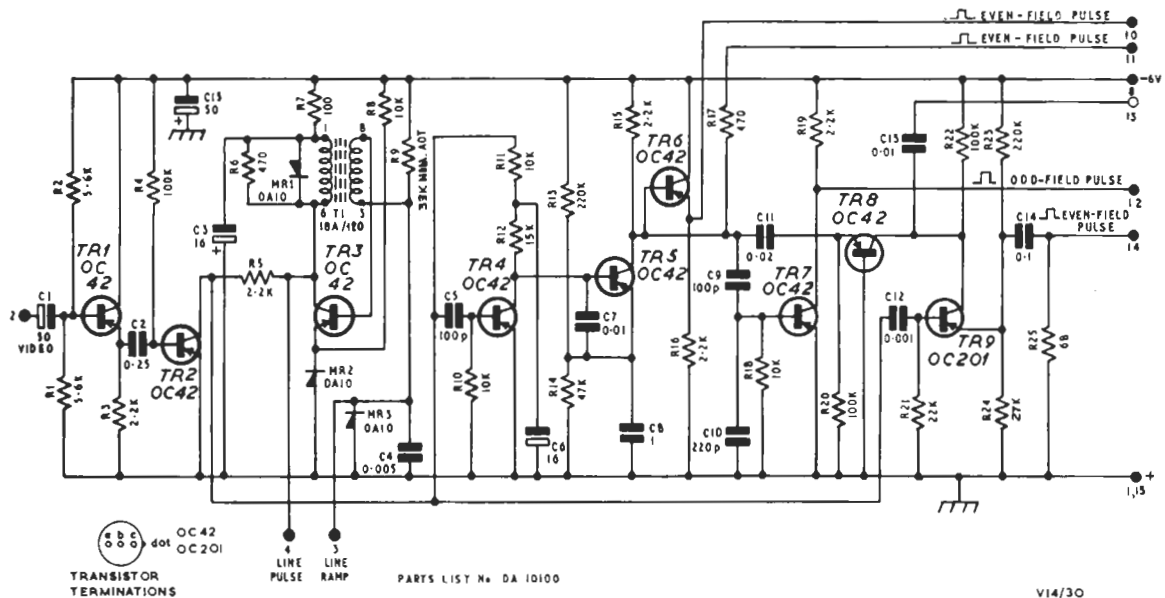
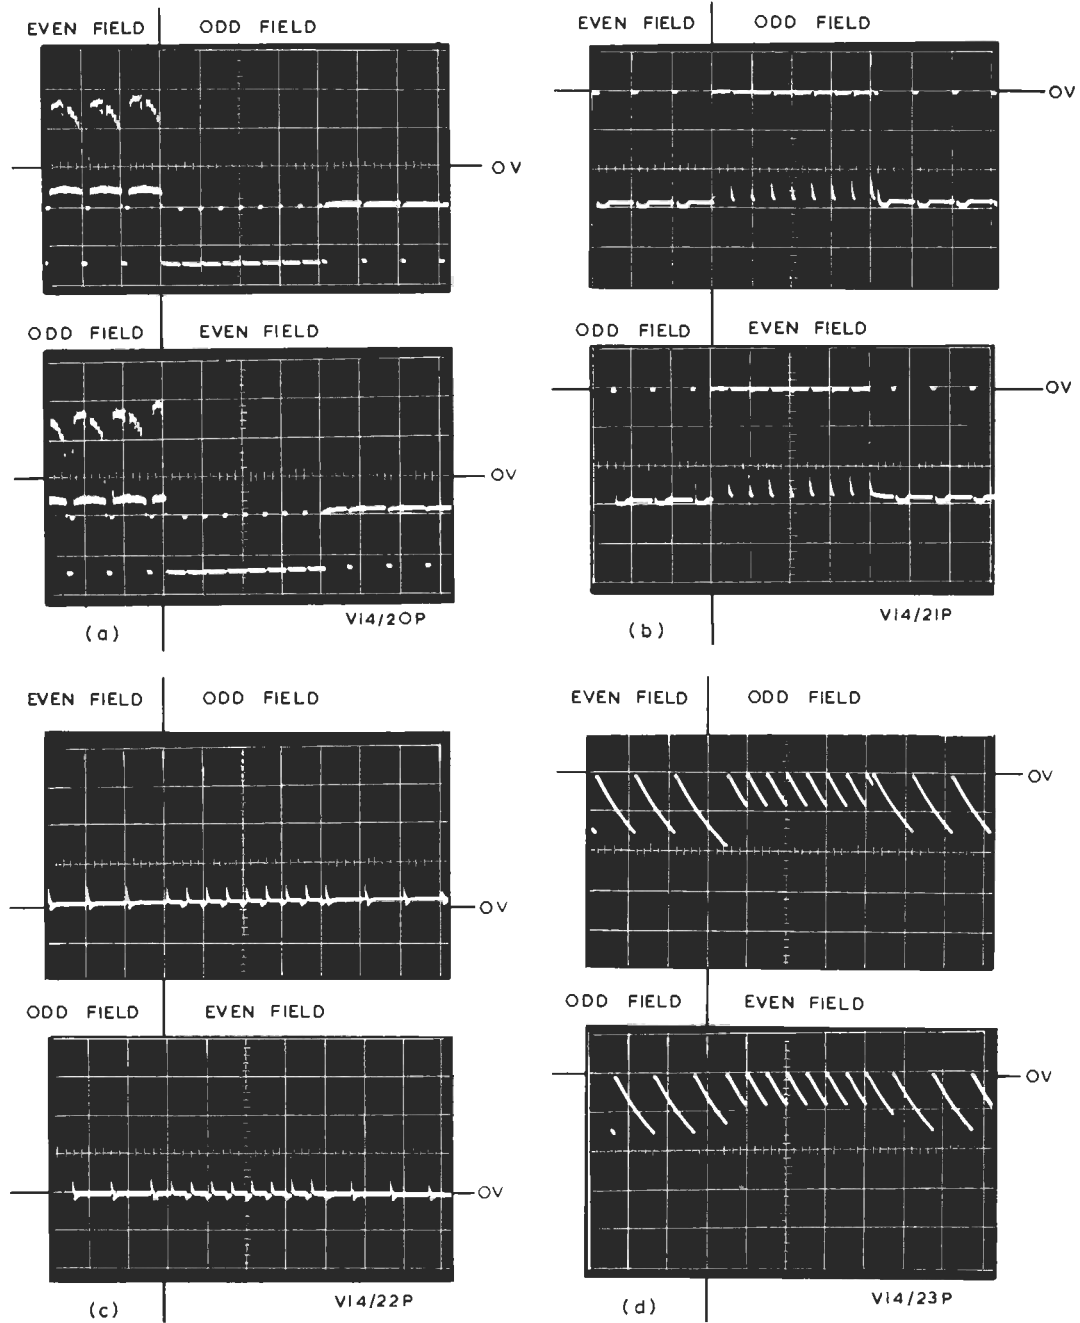
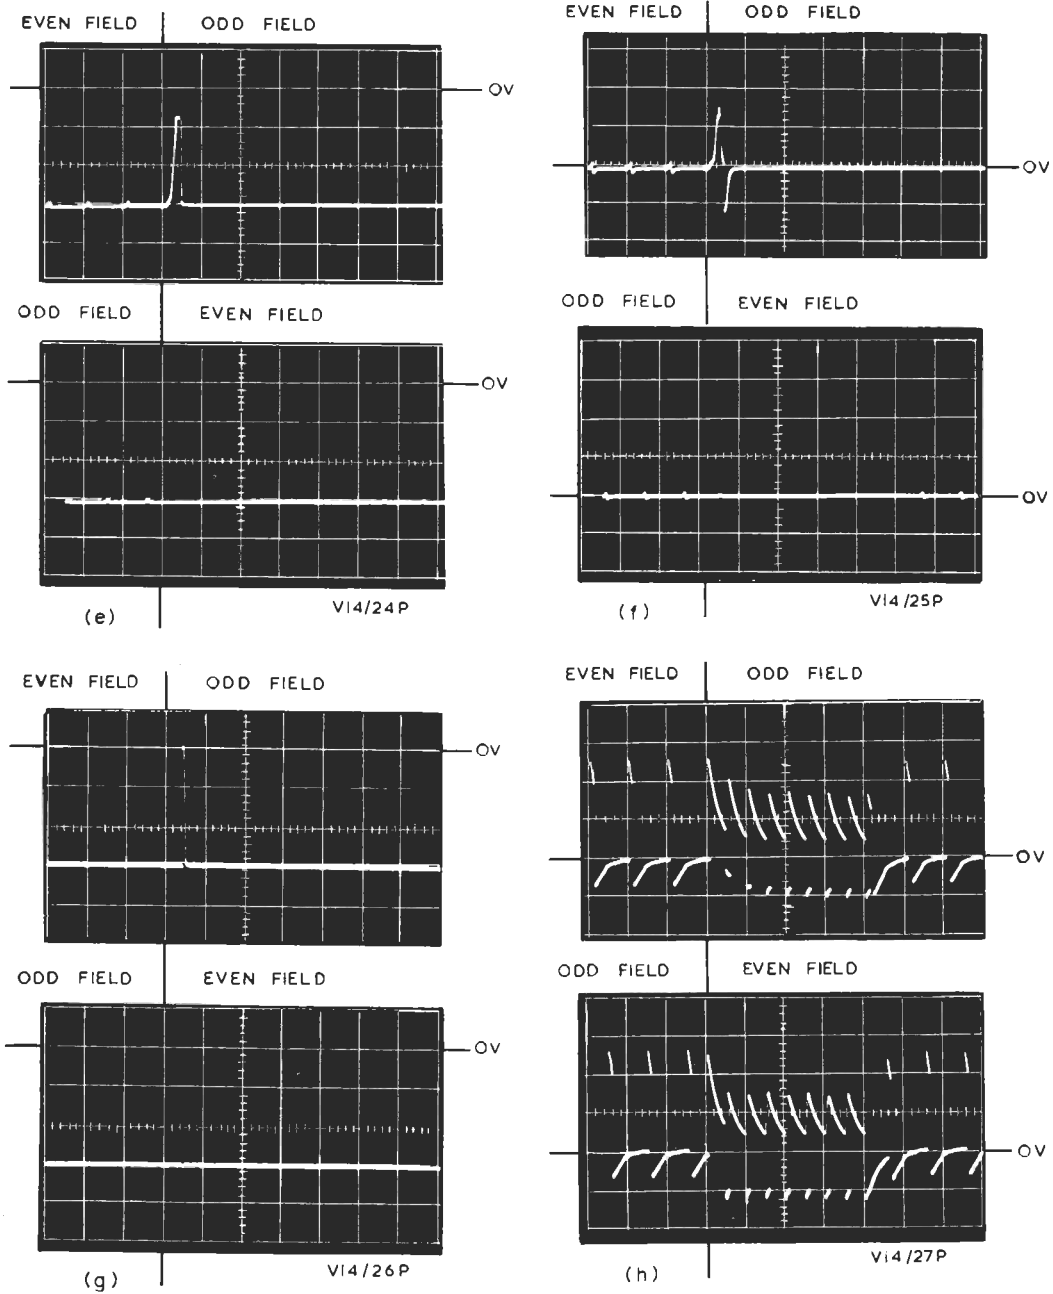
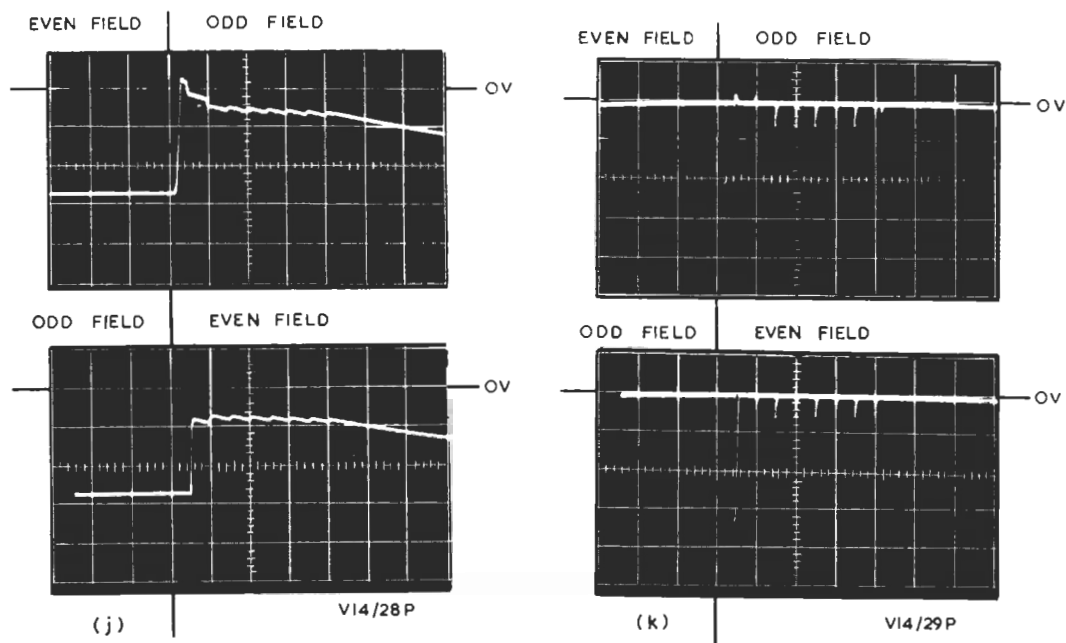

Fig. 21.1 Circuit of the UN1/521
Fig. 21.2 Waveforms in the UN1/521
Fig. 21.3 Waveforms in the UNI/521
Fig. 21.4 Waveforms in the UNI/521
The circuit of the UN1/521 is given in Fig. 21.1 and relevant waveforms are shown in Figs. 21.2, 21.3 and 21.4. The first three stages are similar to those of the UN1/527. Sync pulses are fed from the collector of transistor TR2 to a sawtooth generator. The collector supply of transistor TR4 is the d.c. component of the sync pulses. These pulses are also differentiated and fed to the base of TR4; see Fig. 21.2(c). The differentiated pulses cause TR4 to conduct on the trailing edges of both the line-sync pulses and the broad pulses. Capacitor C7 charges through transistor TR4. While the transistor is cut
off, capacitor C7 discharges through resistor R12. The sawtooth during the first broad pulse of odd fields, shown in Fig. 21.2(d), is of greater duration and hence of greater amplitude than any other during the picture period. Transistor TR5 is biased beyond cutoff except at the end of this longer sawtooth. This gives a positive-going odd-field picture-frequency pulse, shown in Fig. 21.3(e), at the collector of transistor TR5 and at pin 10. This pulse is differentiated, Fig. 21.3(f), and fed to the base of transistor TR7 giving a narrower positive-going odd-field picture-frequency pulse at pin 12 as shown in Fig. 21.3(g).
Transistors TR8 and TR9 have the same collector load resistor R22. Their collectors are also connected via capacitor C13 and a low impedance to the positive rail. The time constant of this circuit is 1ms so that after either of these transistors has conducted a pulse of current, their collector supply is effectively removed for about 10 lines. This is shown in Fig. 21.4(j).
form, shown in Fig. 21.3(h). Transistor TR9 is biased so that it can conduct only during the intervals between broad pulses. On odd fields, a pulse is fed to the emitter of transistor TR8 at the end of the first broad pulse which removes the collector supply from transistor TR9 so that it does not conduct. On even fields transistor TR9 conducts during the interval between the first and second broad pulses thereby removing its own collector supply. This gives a negative-going even-field picture-frequency pulse at pin 14 as shown in Fig. 21.4(k). Capacitor C13 differentiates the waveform at the collectors of transistors TR8 and TR9 giving a positive-going field-frequency pulse at pin 13. The slight difference in timing on alternate fields has no observable effect on the operation of the Mains Discriminator to which they are fed.
4. Observe the waveform at pin 12 with the oscilloscope set to display the field-signal period. The waveform, shown in Fig. 21.3(g), should be a positive-going pulse very nearly coincident with the trailing edge of the first broad pulse on odd fields. Its amplitude should be 6.0 ± 0.3 volts. Spurious signals in both fields should have an amplitude less than 0.2 volts.
5. Observe the waveforms at pins 10 and 11. They should be identical positive-going even-field pulses, Fig. 21.3(e), with an amplitude of 4.7 ± 0.3 volts and a duration of not less than 10 μ s.
6. Observe the waveform at pin 14. The waveform, shown in Fig. 21.4(k), should have an amplitude of 0.7 ± 0.1 volts and a duration of about 5 μ s. Spurious signals on both fields should have an amplitude of less than 0.2 volts.